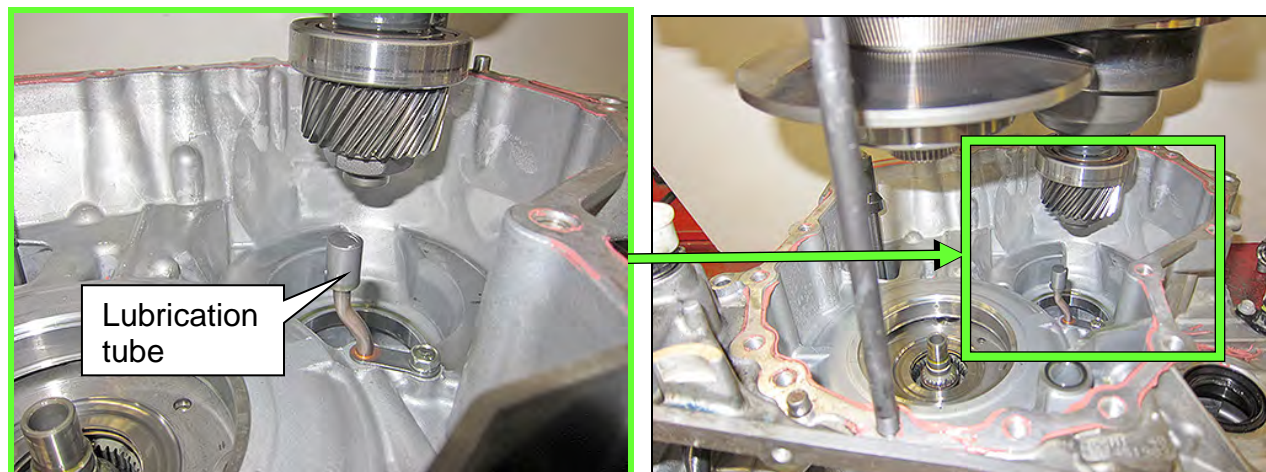

Figure 29F
**IMPORTANT:** Do NOT allow the output gear to contact the lubrication tube when the side cover is positioned over the guide pins (Figure 29F).